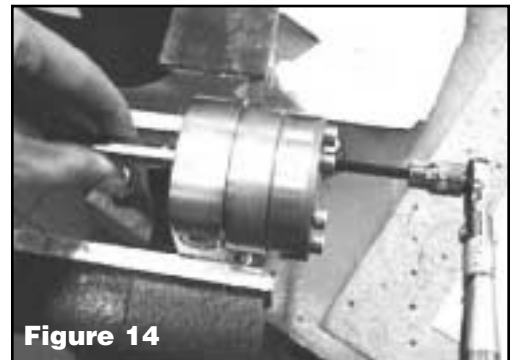

Figure 14
11. Lubricate the threads and install the socket head screws (19) through the rear plate (7). Torque the screws to 50% of recommended torque (see table page 14) using a crossing pattern. Check for free rotation of the gears. If acceptable, continue to torque to total recommended torque. Again, check for free rotation of the gears. See *Figure 14*.
12. Place a seal installation tool (lip seal version only) (52) [item 41 on .05-2.4 cc/rev pumps] over the end of the shaft.